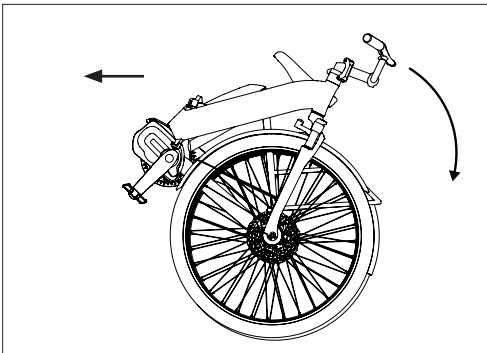

Fig. 39: Rolling the bike while folded.
3. Press down both brake levers with your thumbs, and tilt the bike toward you. Activating the brakes will lock the wheels and allow you to pivot the bike to a balanced position (Fig. 39).
4. With the motor side of the bike raised, release the brakes, and the bike should now easily balance. You can now roll the bike in front of you while walking (Fig. 39).